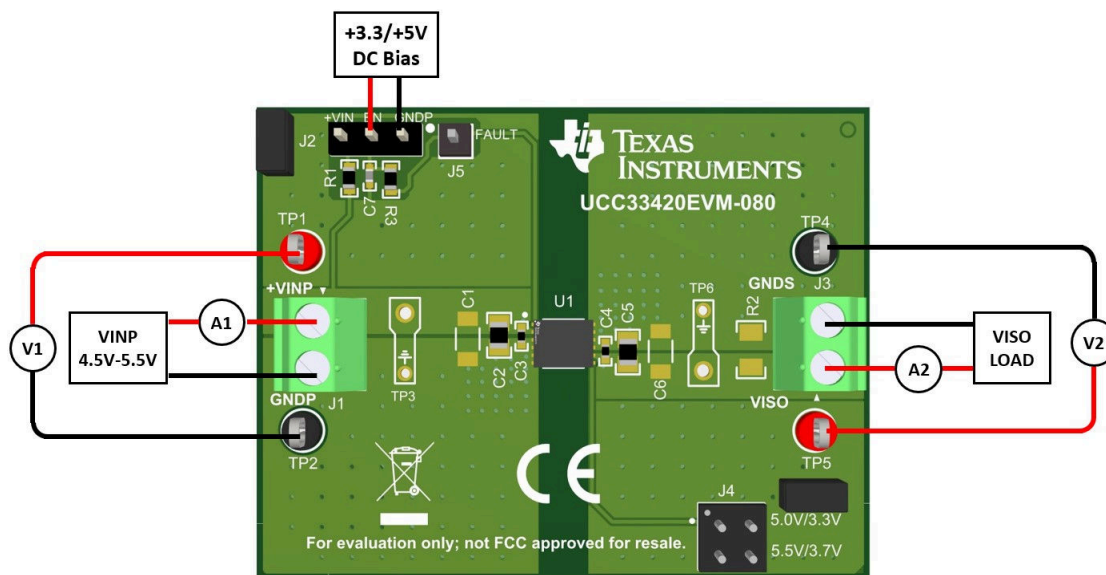

Figure 2-1. Typical Efficiency Measurement Setup
3. Connect a variable load between J3:1 (V_{ISO}) and J3:2 (GNDS). If using an electronic load, then set to constant current (CC), 300mA. Leave the load disabled until the EVM is powered.
4. Some electronic loads are not able to regulate or stabilize CC when setting in the low mA range. Monitor the input current and load currents by inserting ammeters as shown in Figure 2-1. A current probe can be used with the oscilloscope to verify the stability of the DC current being regulated by an electronic load.